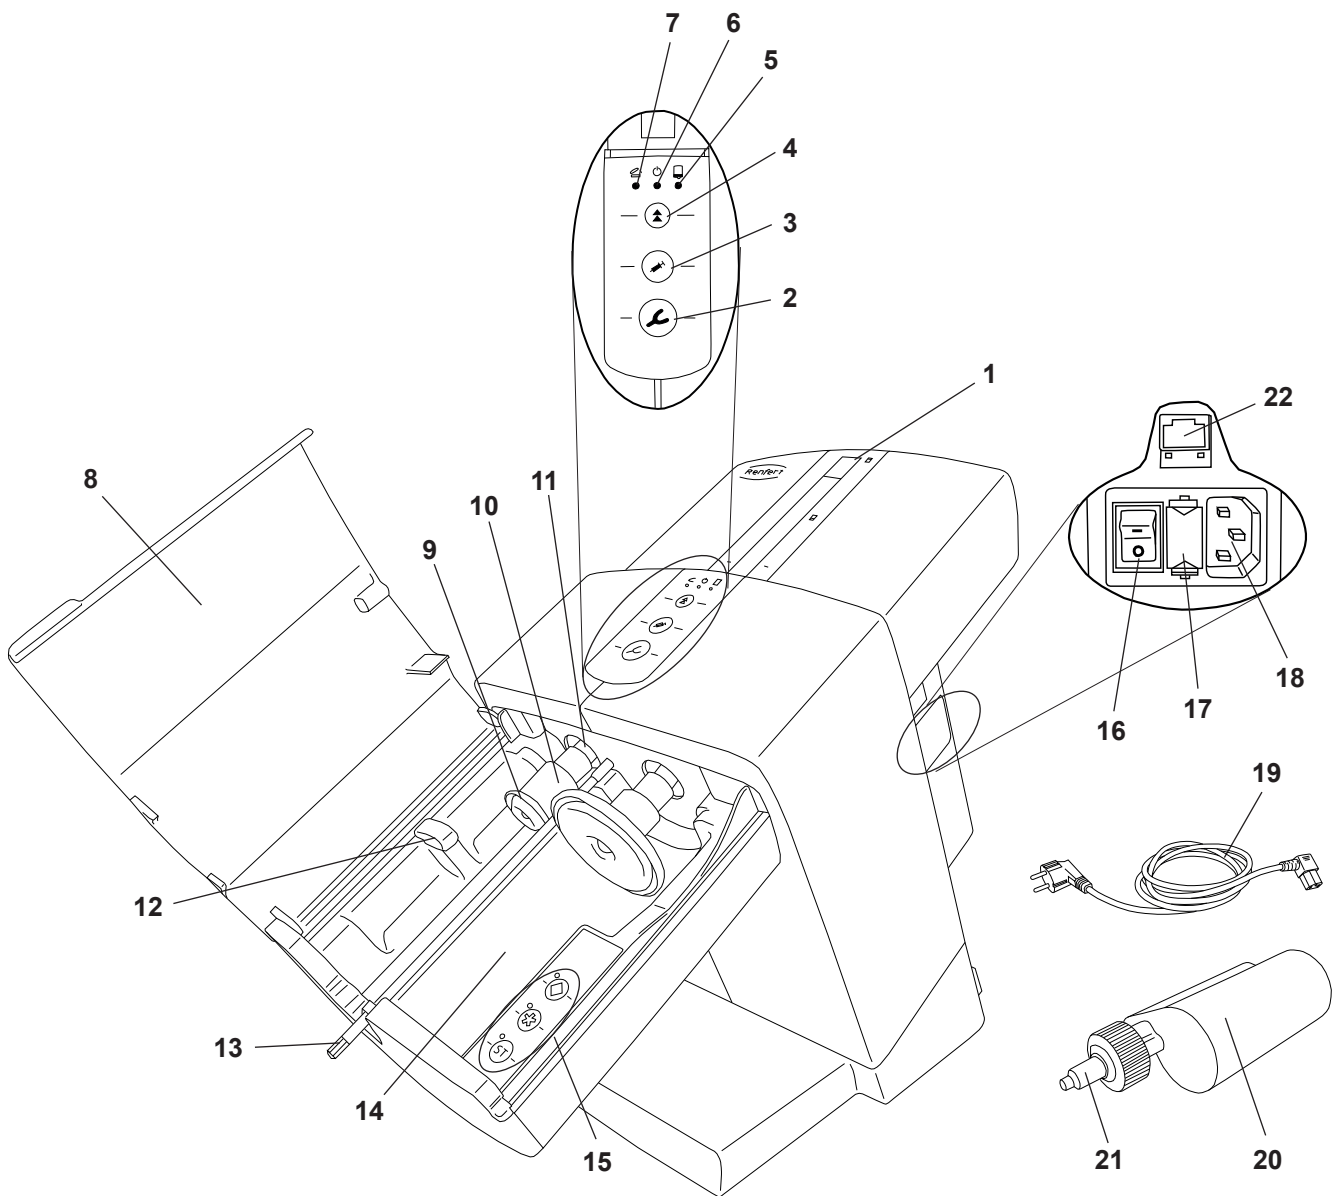

Fig. 1
⇒ Connect the provided power cord (19, Fig. 1) to the mains connection socket (18).
⇒ Close the unit cover (8, Fig. 1).
- ◆ The pressure discs (9, Fig. 1) retract to their home position where they stop.
A cartridge can only be installed or replaced if both pressure discs (9, Fig. 1) are in their home position.
⇒ Open the unit cover (8, Fig. 1).
The cover will only close if the cartridge has been properly installed. The red “Unit cover open” LED (7, Fig. 1) will remain on until the unit cover has been properly closed.